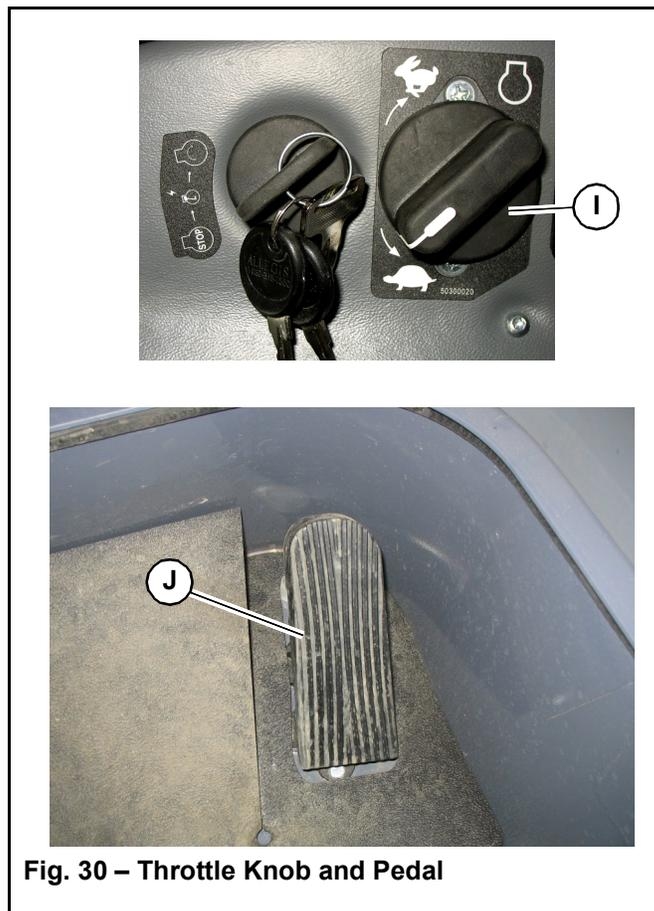

Fig. 30 – Throttle Knob and Pedal
Engine throttle is controlled with both a knob (I, Fig. 30) and a pedal (J).